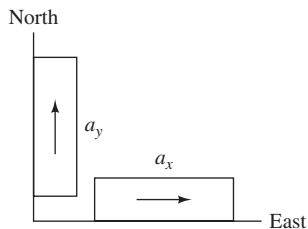

FIGURE P11.20 Accelerator set.
11.20 (H)* A set of accelerators are installed on an object as shown in Figure P11.20. Data are collected from each accelerator from time $T = 0 \text{ s}$ and $T = 3 \text{ s}$, $a_x = 4 \text{ m/s}^2$